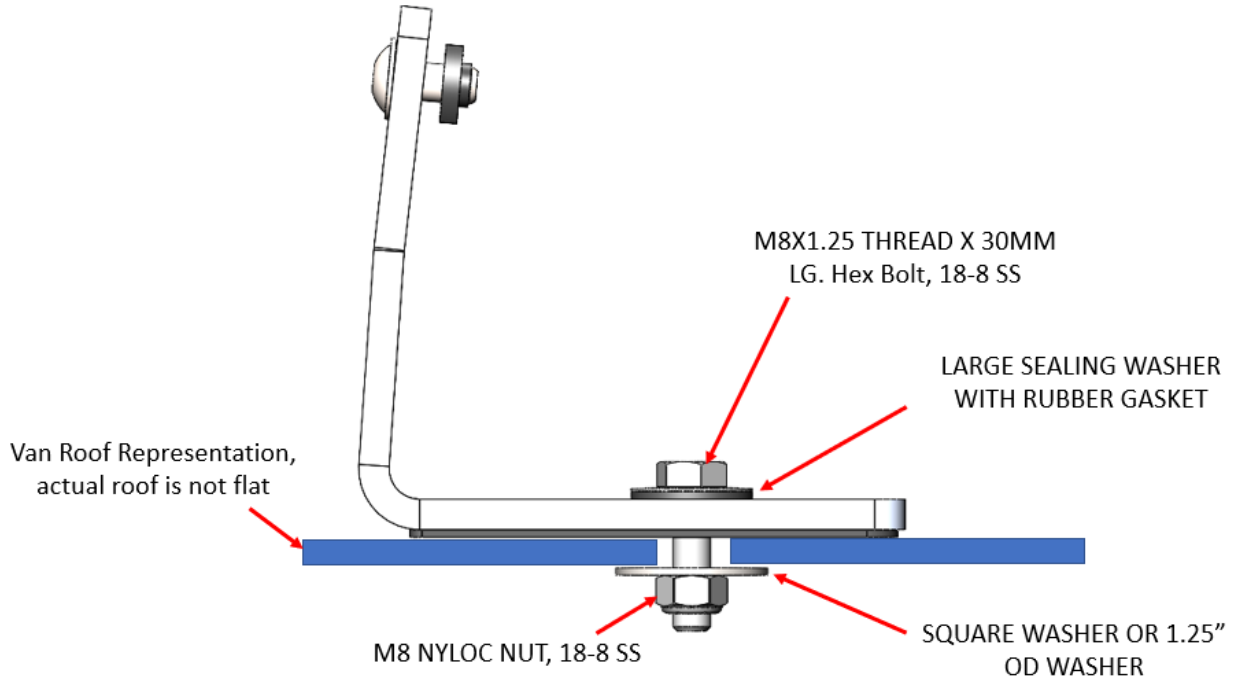

Figure 9: Transit rear bracket hardware
- b. Insert the M8 bolt through the sealing washer, and the rear bracket, and into the van as shown in Figure 9